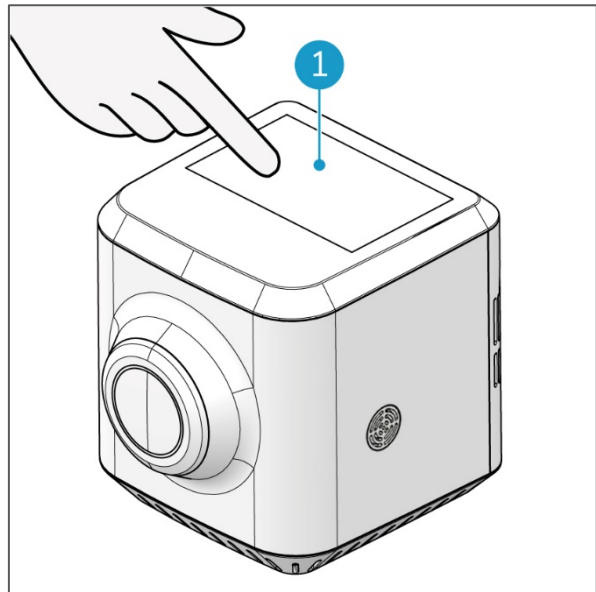

Figure 9
1. Touch the touchscreen on the top of the i-sense (Figure 9, pos 1) with your finger.